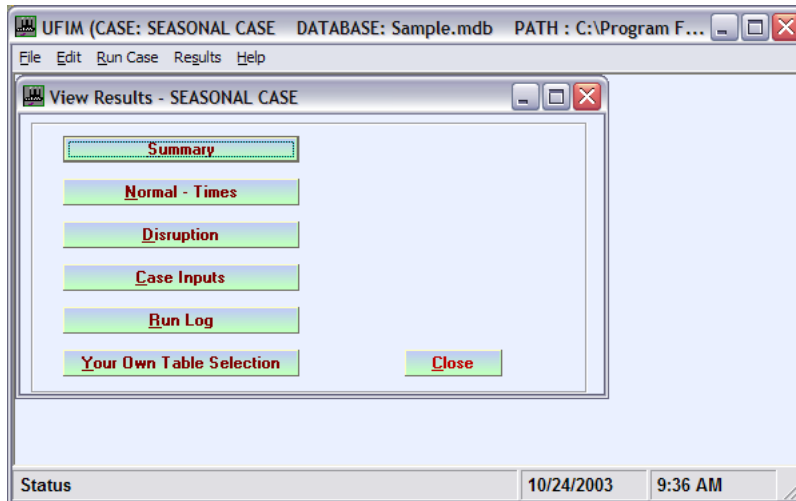

Figure 2-13: View Results Options
If the Seasonal Case is selected a form is show where the user can select one of several output reports, Figure 2-13. The output options are (1) A summary report, (2) a normal-Times report, (3) a disruption report, (4) a report listing the case inputs, (5) the run log, and (6) your own table selection.